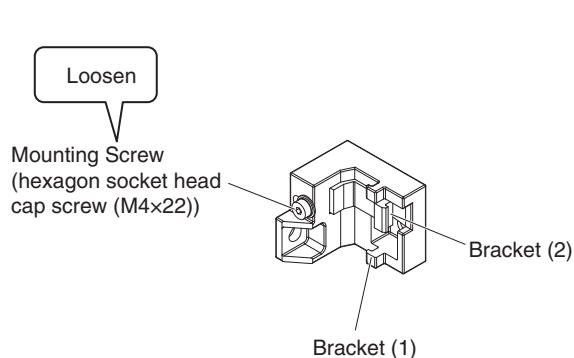
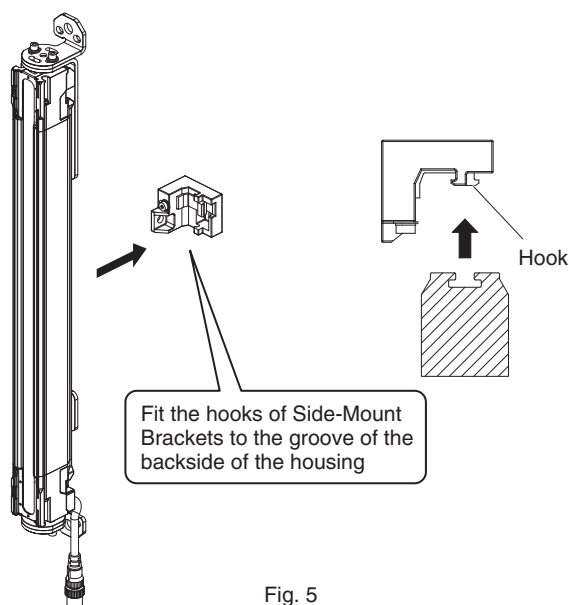

Fig. 4
Fig. 5
- 4.** Fully loosen the Mounting Screw (hexagon socket head cap screw (M4×22)) of the Side-Mount Bracket. (Fig. 4) Then slide the hooks of the Brackets (1) and (2) in the groove of the backside of the sensor housing. (Fig. 5)